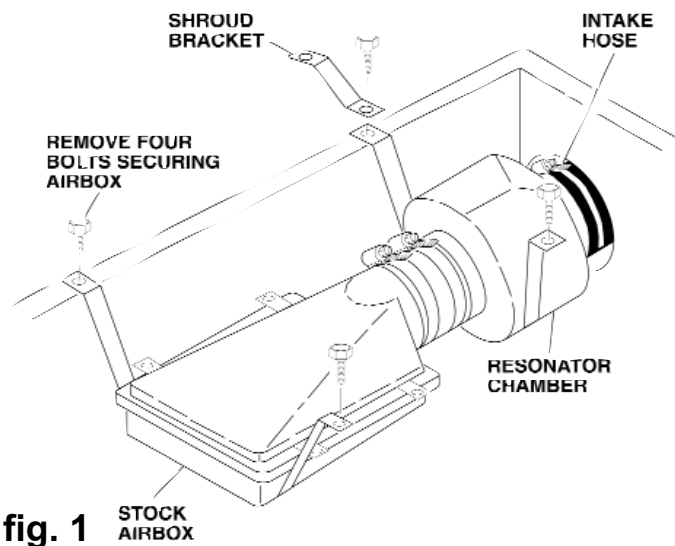

fig. 1
- 2) Remove the stock airbox. Loosen the intake hose clamp at the resonator chamber as shown in fig. 1, then remove the four bolts securing airbox to vehicle (note: one of the airbox bolts connects the fan shroud bracket, you will need to refasten that bracket with the stock bolt). Carefully remove the airbox and resonator chamber as a complete assembly from vehicle.